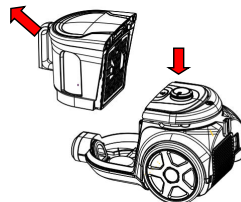

Fig.7
2. As in Fig.7, take the dust chamber out of the machine.